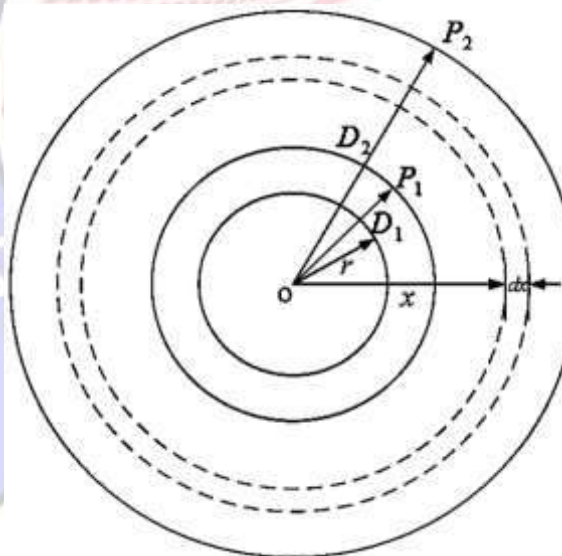

Fig. 13:
- Figure 13 shows a solid cylindrical conductor with radius  $r$ , carrying current  $I$ .
- In order to determine the magnetic field intensity ( $H_x$ ) outside the conductor, select the dashed circle of radius  $x > r$  shown in Fig. 13 as a closed path.